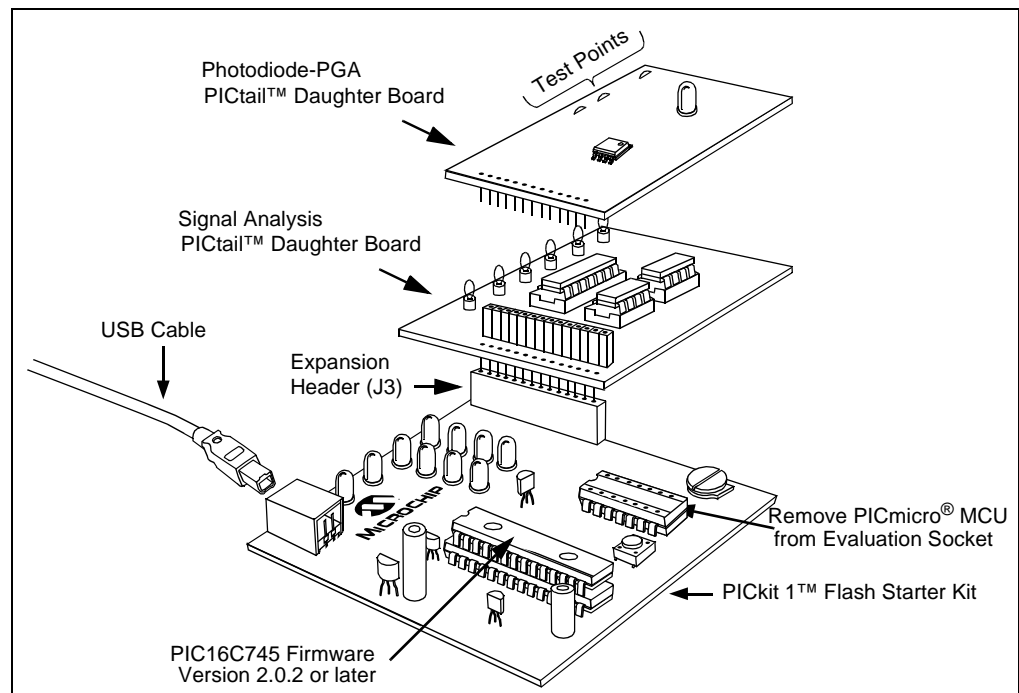

FIGURE 2-1: Board Connections.
The PICKit 1 Flash Starter Kit (DV164101) programs PICmicro® microcontrollers, using the PIC16C745's USB port to communicate with the PICKit 1 Signal Analysis PC Program. It connects to the Signal Analysis PICtail Daughter Board via a header (see Figure 2-1).
An exploded view of how the different boards connect is shown in Figure 2-1.
This board plugs into the PICkit 1 Flash Starter Kit's expansion header J3 (Figure 2-1), and must not cover the LED array. There should be no change in the status LEDs on the PICkit Flash Starter Kit board once it is plugged in.
1. Plug this board into, and directly above, the Signal Analysis PICtail Daughter Board (Figure 2-1). There should be no change in the status LEDs on the PICkit Flash Starter Kit board once it is plugged in.